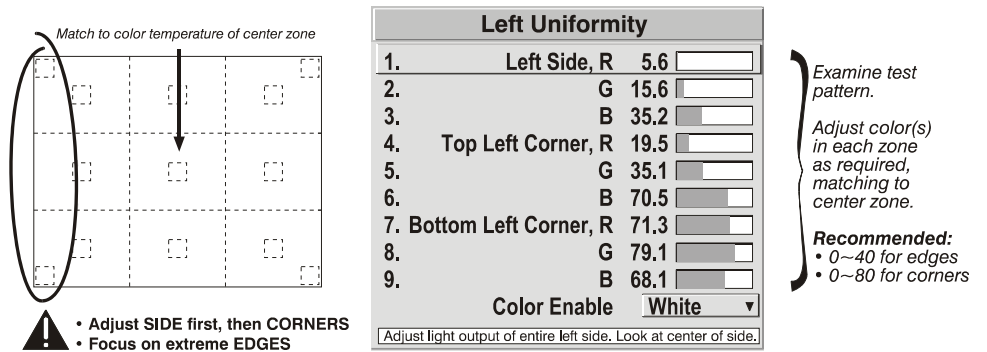

Figure 3.31. Match Zones to Center Color Temperature
- 2b) Return to the *Brightness Uniformity* menu. Beginning with the screen that exhibits the most obvious color shift(s), for each edge that exhibits a noticeably different color temperature from the center, select the corresponding *Uniformity* adjustment menu—*Left, Right, Top* or *Bottom*. For example, if any part of the left side is too blue, too red or too green, go to the *Left Uniformity* menu and adjust the colors (i.e., change their light output) until all portions of the left side closely match the center color temperature. Adjust an edge first (focusing on its center), and then adjust its corners. See Figure 3.31.